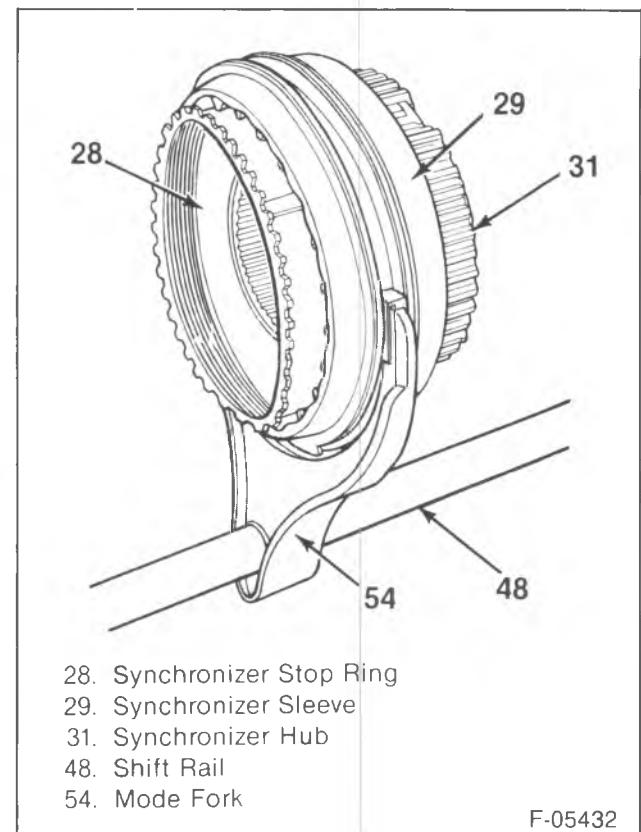

Figure 14—Synchronizer Hub Assembly and Mode Fork
- Nut (63) to 27 N·m (20 ft. lbs.).
- 8. Range shift hub (34) and the range shift fork into the front case half (45).
- 9. Synchronizer assembly, mode shift fork (54) and rail into the front case half (45) (figure 14).
- 10. Front output shaft (21) to the chain (58).